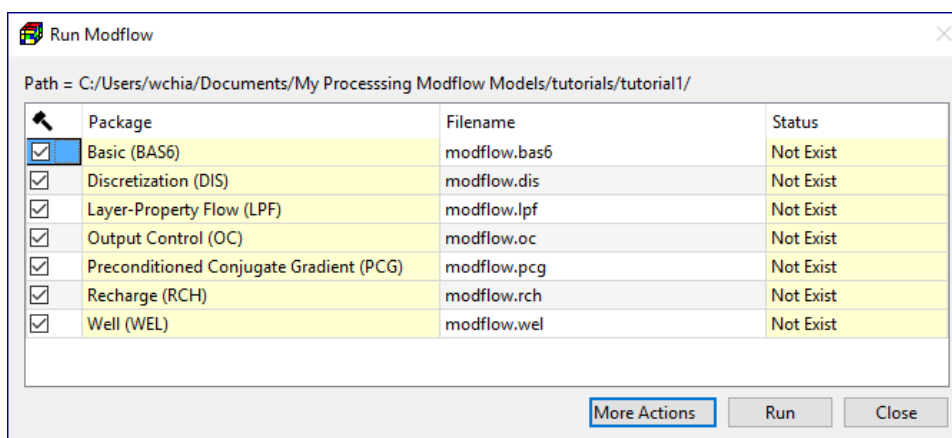

Figure 6. The Run Modflow dialog box
1. Select Models > MODFLOW > Run to open the Run Modflow dialog box (Figure 6).